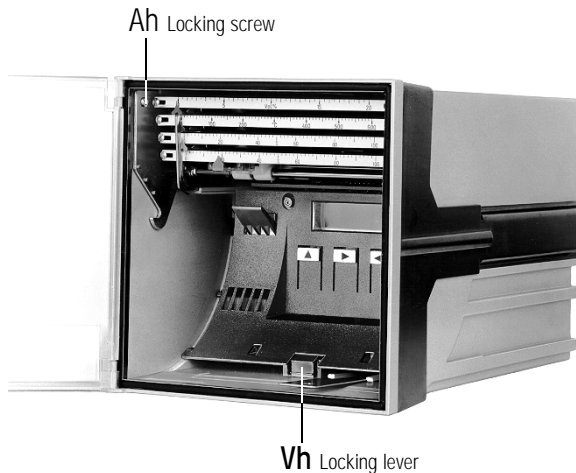

Figure 13
#### 3.1.1 Hardware matching by means of jumpers (see figure 13))
1. Undo the locking screw **As** (see figure 13) and pull the carrier of the measuring systems about 2 cm to the front.
2. Lift the locking lever **Vh** (see figure 13) and at the same time pull the assembly group to the front.
7. Slide the carrier of the measuring systems into the case and tighten the locking screw **As** (see figure 13).